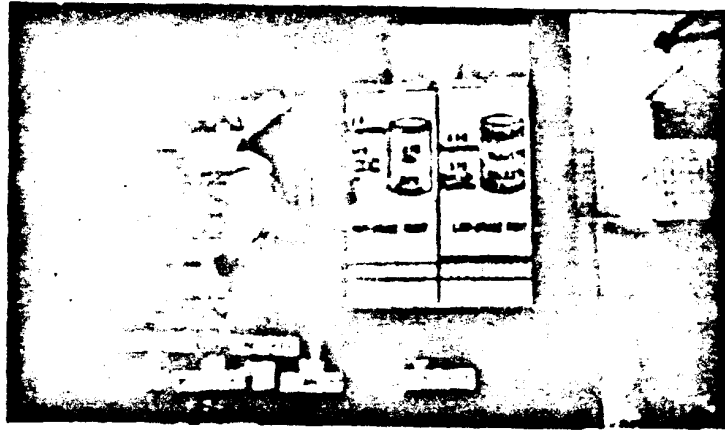

Fig. 8
- a. The how and why of paint failures and the way to prevent them. (Fig. 8)